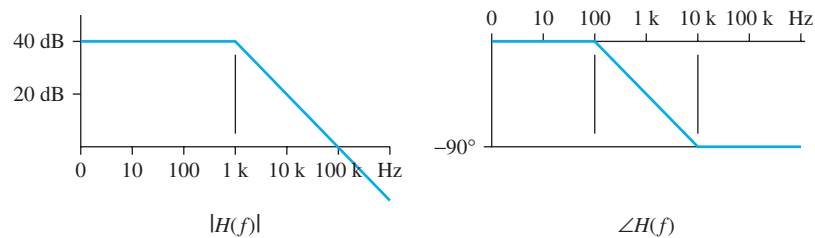

FIGURE 7.10 Bode plot for Example 7.6.
A filter has the transfer function as given by the Bode plots in Figure 7.10. *Note:* This is an active filter because of the amplification (see Chapters 8 and 11).
As can be seen in the magnitude Bode plot, shown in Figure 7.10, the gain at low frequencies is not unity (0 dB). It is 40 dB or 100 dB. The transfer function needs to express this amplification. Thus, $H_0 = 100$, and
- $x(t)$ includes two signals with two frequencies 100 Hz and 10 kHz. The gain at 100 Hz is $100\angle 0^\circ$ (see Figure 7.10); now, because the corresponding phasor is $3\angle -15^\circ$, the output phasor is $3\angle -15^\circ \times 100\angle 0^\circ = 300\angle -15^\circ$. The gain at 10 kHz is $10\angle -90^\circ$; thus, $1\angle 45^\circ \times 10\angle -90^\circ = 10\angle -45^\circ$. Accordingly, the total output signal is: